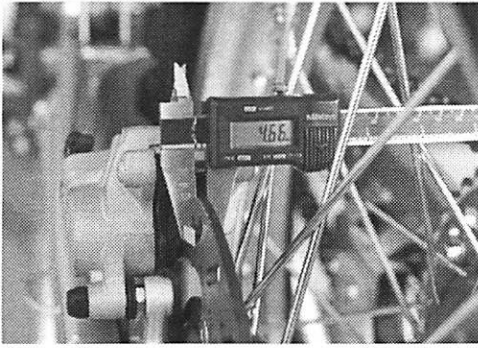

Figure 6.7
**Brake Rotor Condition (Figure 6.7)**